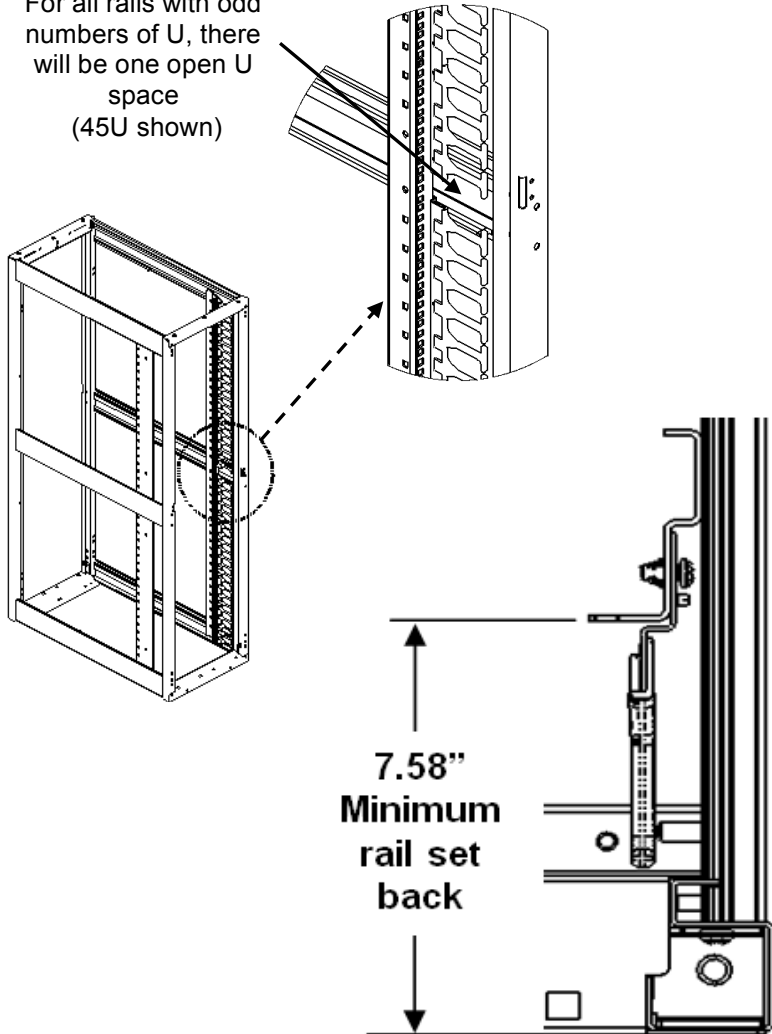
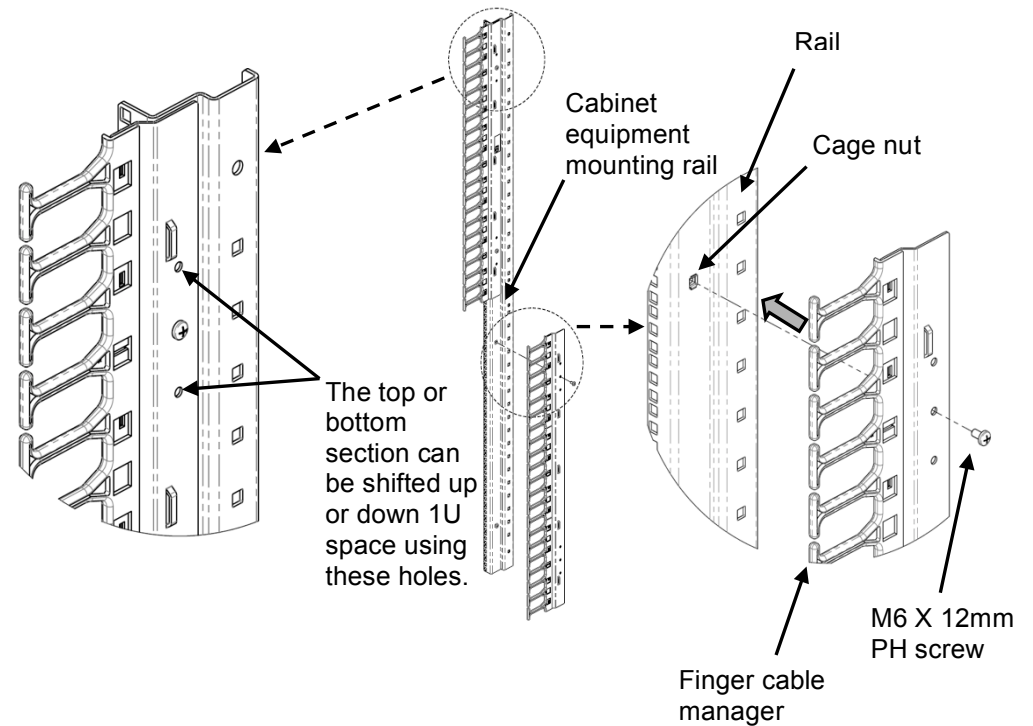

Fig. 2
Fig. 3
FINGER CABLE MANAGER INSTALLED WITH CAGE NUT: (Fig. 1 to Fig. 3)
The equipment mounting rail must be set back a minimum distance 7.58" (193mm) for Finger Cable Manager Installation (Fig. 2)
The Finger Cable Manager attaches to the equipment mounting rail (Fig. 2).
2. Attach each Finger cable manager bracket to the side of the Equipment mounting rail with two M6 X 12 mm PH screw (Fig. 3).
There will be an empty U space at the center of the rail (Fig. 2, detail). If desired, the top or bottom finger section can be shifted up or down 1U space so that the empty space is at the top or bottom of the rail (Fig. 3).